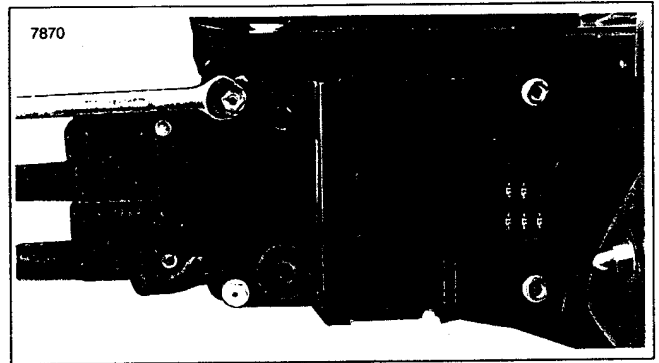
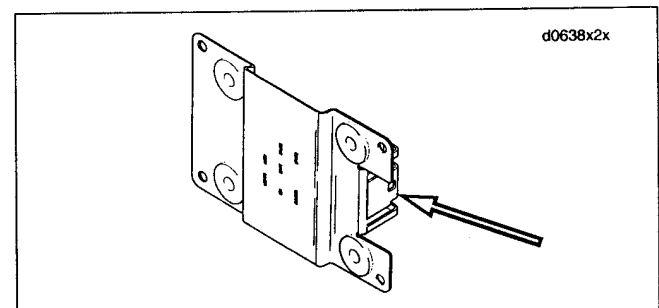

Figure 5-4. Removing/Installing Top Plate
Figure 5-6. Top Plate Slotted Tab
4. See Figure 5-4. Remove nuts on top plate.
2. See Figure 5-6. See Figure 5-4. Slide slotted tab of top plate into panel adjacent to fuses.
3. See Figure 5-4. Install and tighten nuts on top plate.